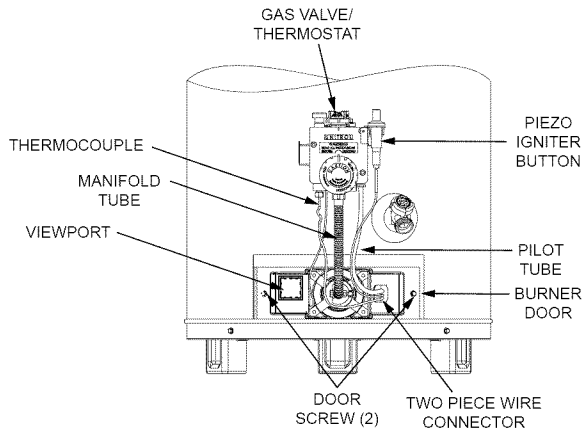

FIGURE 24.
4. Remove the two screws securing the burner door assembly to the combustion chamber. (Figure 24).